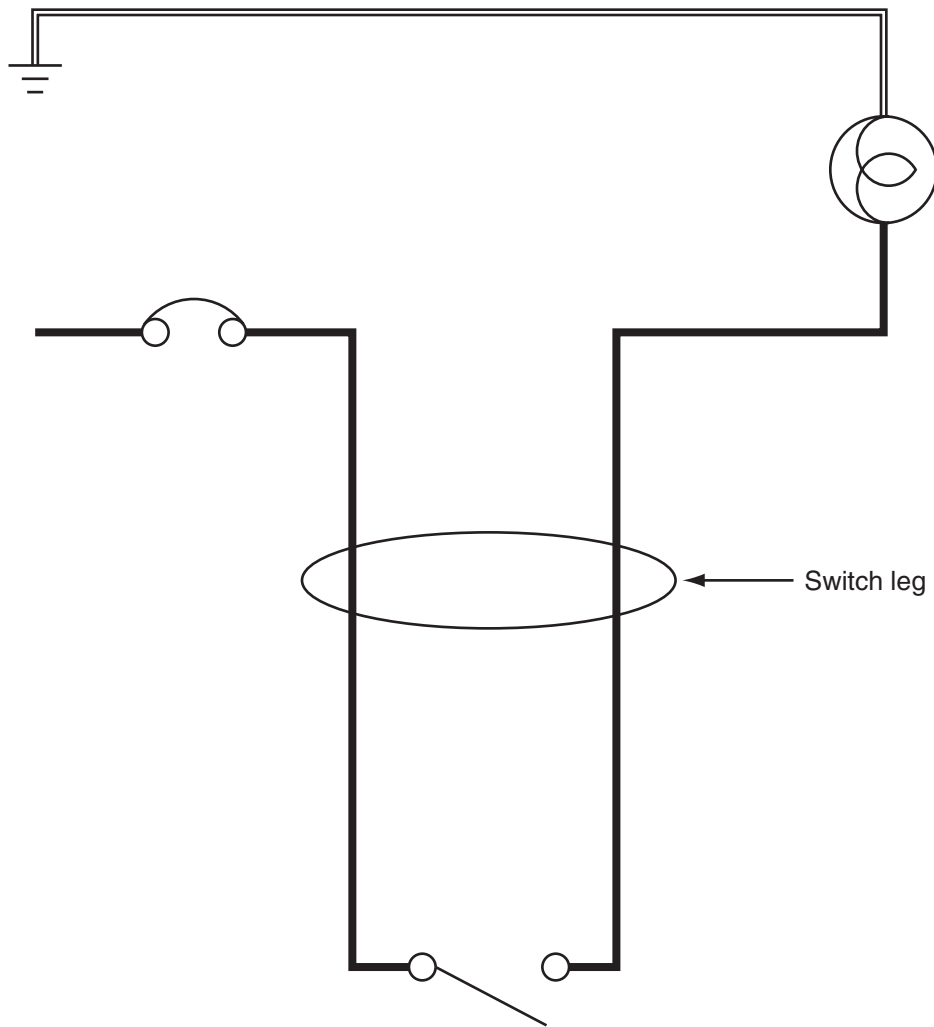

Figure 7-9 A switch leg is an extension of the hot conductor.
is the case, the hot conductor must be extended to permit the switch to make or break the circuit (Figure 7-9).
2. *All connections must be made inside a box.* Figure 7-9 shows that a switch leg is an extension of the hot or ungrounded conductor. In reality, this connection must be made inside a box, not in the middle of the conductor.